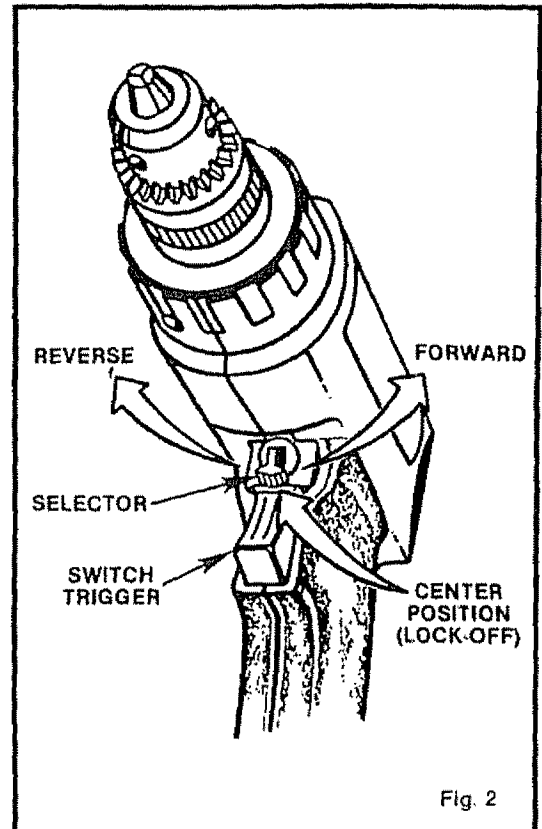

Fig. 2
Your drill has the feature of being reversible. The direction of rotation is controlled by a selector located above the switch trigger. See Figure 2. With your drill held in normal operating position, the direction of rotation selector should be positioned to the left of the switch for drilling. The drill direction is reversed when the selector is to the right of the switch. When the selector is in center position, the switch trigger is locked.
**NOTE:** To lock switch trigger, place the direction of rotation selector in center position. See Figure 2.